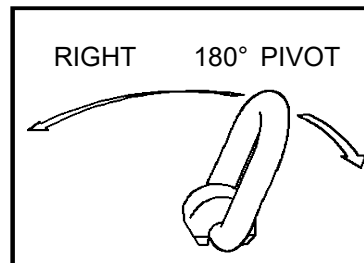

Figure 4
- Always ensure free movement of bail. The bail should pivot 180 degrees (Figure 4).
- Never apply load except in line with the pivot direction (Figure 4).